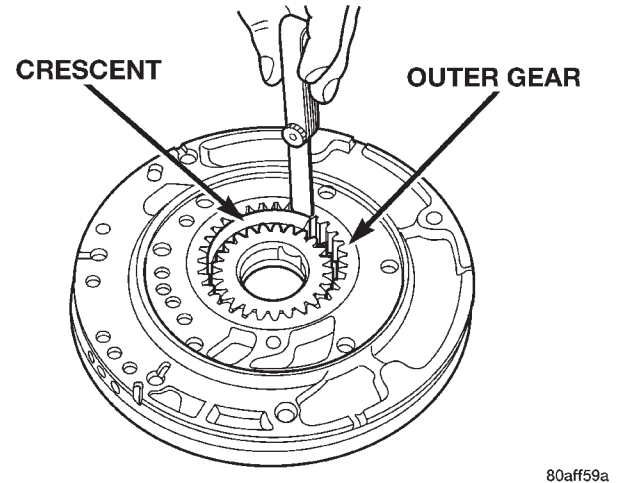

Fig. 89 Measure Outer Gear To Crescent
- (6) Measure the clearance between the outer gear and the pump crescent. Clearance should be 0.020-0.046mm (0.0008-0.0018 in.) (Fig. 89).